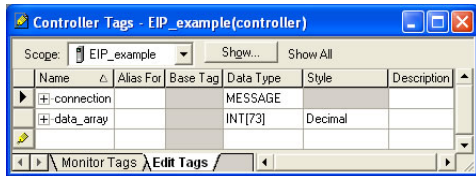

Figure 99: Create New Tags
- b) The “Controller Tags” window appears. Refer to Figure 99.